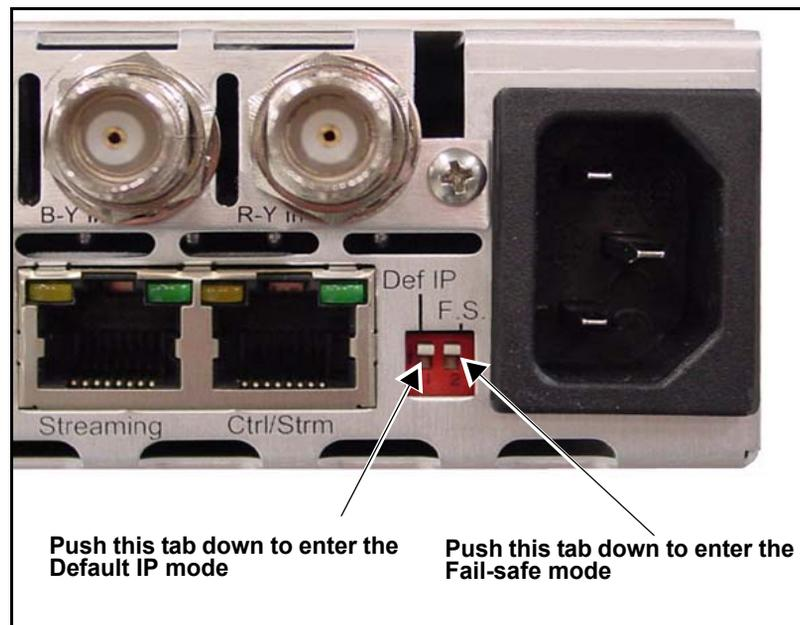

Figure B-11. Location of Def IP and FS DIP Switches
1. Push both **Def IP** and **F.S.** (Fail-safe) DIP switches at the back of the X85/X75 to the down position, and then re-power the unit (see Figure B-11).